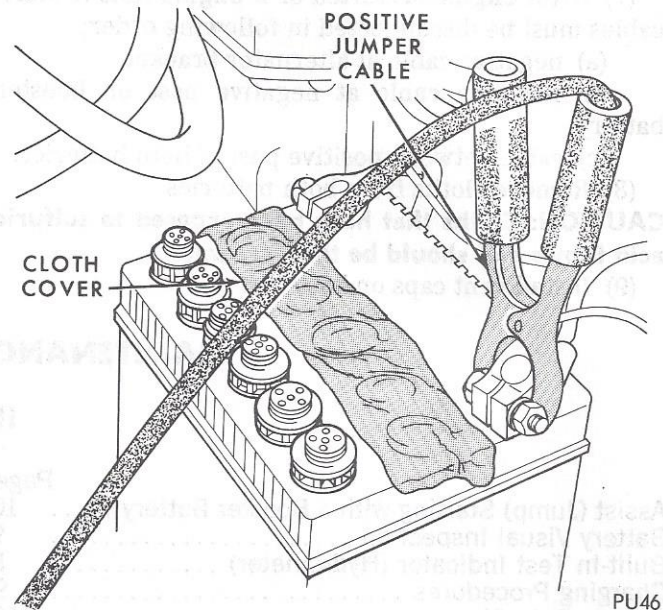

Fig. 16—Positive Jumper Cable Connected
(4) Cover vent cap openings of both batteries with a cloth.
(5) Connect one jumper cable between **Positive (+) Post** of both batteries (Fig. 16).